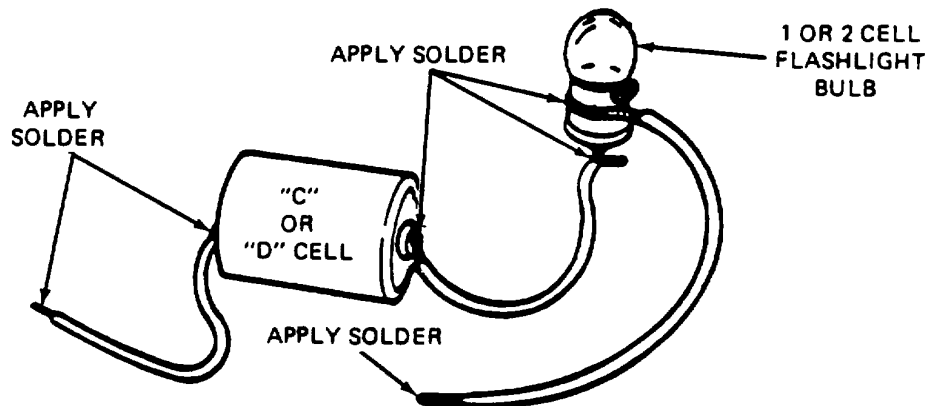

Figure B-2. Continuity Tester Made from Flashlight Bulb.
b. Continuity Tester. A continuity tester can be made from a flashlight bulb, flashlight battery, and three pieces of wire (figure B-2). When the free ends of the wires are touched to a circuit where continuity (or a short) exists, the bulb will glow. If a two-cell flashlight bulb is used with only one battery, the bulb will glow with one-half its normal brilliance.